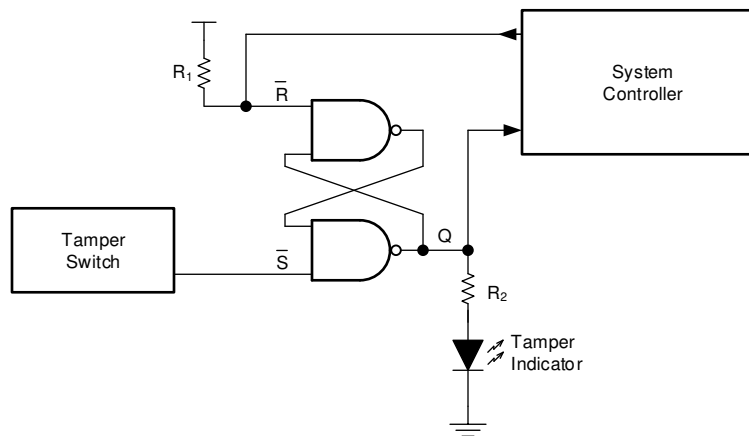

図 8-1. Typical Application Block Diagram
図 8-1 shows how the SN54SC4T00-SEP is used to up-translate a 1.8-V signal to 3.3 V to drive an LED in this application. The SN54SC4T00-SEP does not limit the output current, so an added output resistor is used to provide the appropriate current limiting. The resistor value (R) should be determined by the LED's forward voltage ( $V_D$ ) and the desired forward current through the LED ( $I_D$ ) using this equation:  $R = (V_{CC} - V_D)/I_D$ .